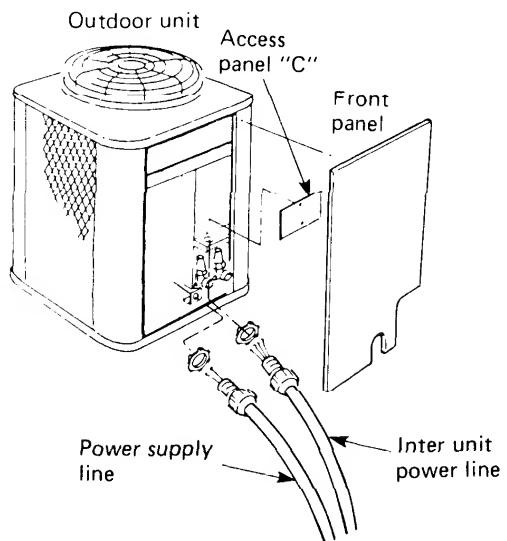

Fig. 18
- Remove access panel "C" and punch knockout holes on the panel. Fig. 18